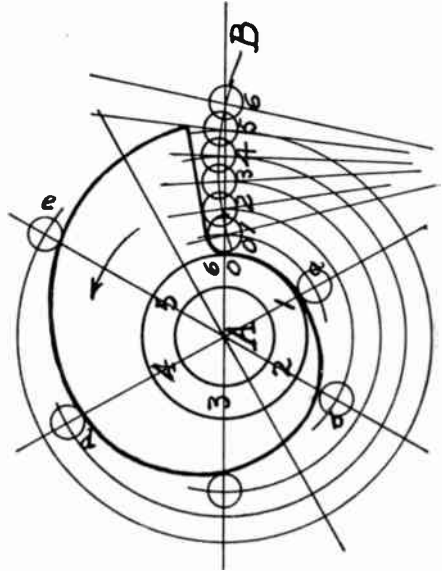

Fig. 5
**CAM OF COMPLETE REVOLUTION.** — Let A (Fig. 5) be the center of motion of a cam and let the arc B be the path of the center of the follower or roller.